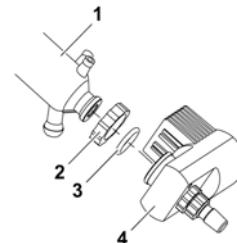

Fig. 4-8: *Installing glassware (here: glassware G1)*
- Slide screw coupling (2) over the condenser flange.
- Slide tension spring (3) over the condenser flange.
- Fasten the screw coupling G6 (6) on the drive head (Fig. 4-8 (5)).
- Insert connector part G6 (5) with the seal G6 (4) in the screw coupling G6 (6).
- Fasten junction (1) to the screw coupling G6 (6) using the screw coupling (2).
- Insert condenser in the upper receptacle of the junction (1).